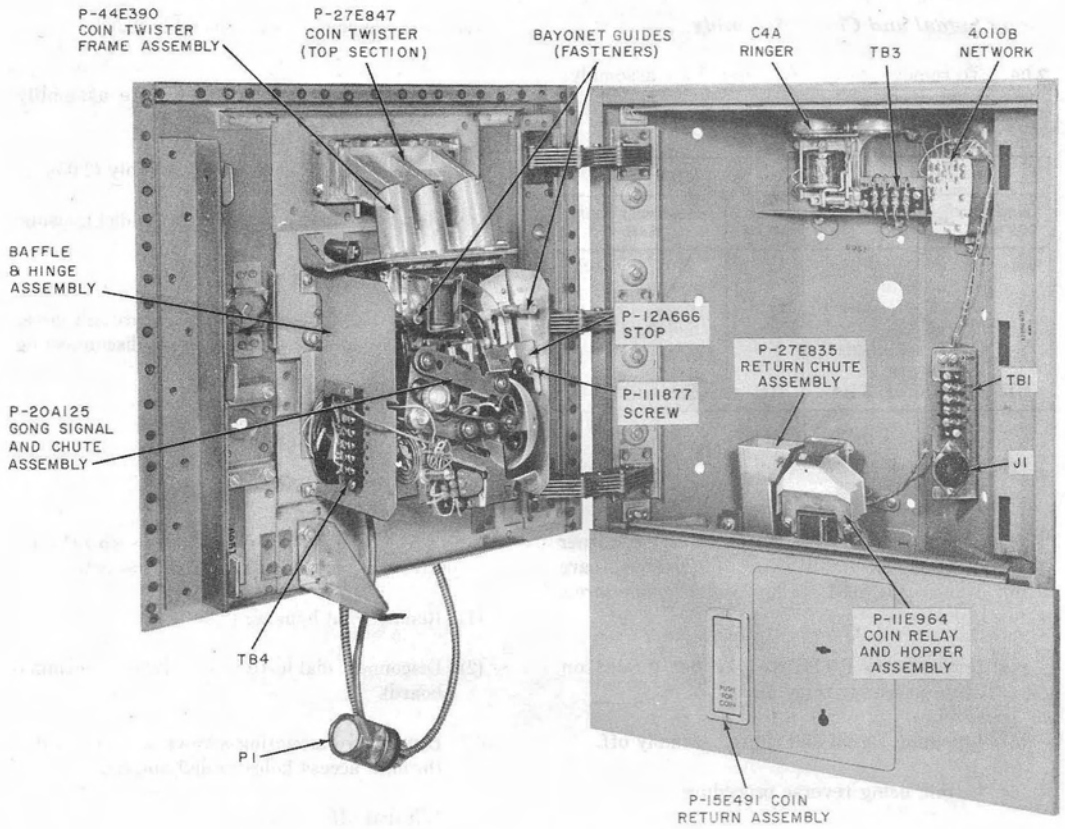

Fig. 5—235G or 1235G Coin Collector—Interior
Note: Do not open door fully until plug (P1) is disconnected (Fig. 5).
- (1) Loosen screws in middle of twister assembly (Fig. 5).
- (2) Lift P-27E847 coin twister (top section) up and out.
- (3) Remove screws and nuts holding P-44E390 coin twister frame assembly (Fig. 5).
- (4) Lift frame assembly up and off.
- (5) Install, using reverse procedure.
(2) Remove P-111877 screw and P-12A666 stop (Fig. 5)
(4) Loosen two P-11E183 bayonet guides on chute assembly (Fig. 5).
(5) Lift gong signal and chute assembly off.
(6) Install, using reverse procedure.
2.05 To remove baffle and hinge assembly (Fig. 5):